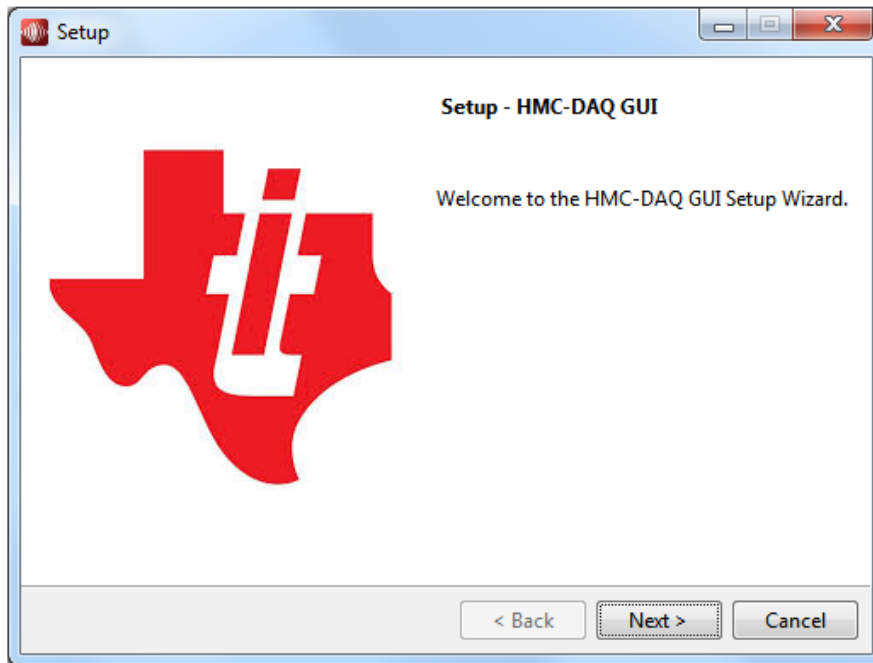

Figure 34. HMC-DAQ GUI Install (Begin Installation)
1. Unzip the saved file and run the installer executable as administrator by right clicking on the file and selecting *Run as Administrator*. Press the *Next* button once the graphic in Figure 34 appears.